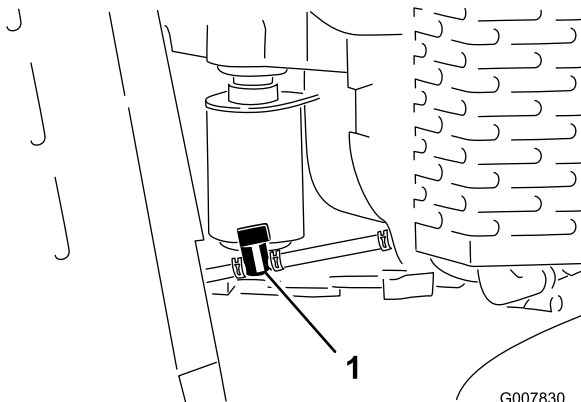

Figure 39
4. Turn the fuel shut-off valve to the closed position (Figure 39).
5. Squeeze the ends of the hose clamp on the engine side of the shut-off valve together and slide it up the fuel line away from valve (Figure 39).
6. Pull the fuel line off the valve (Figure 39). Open the fuel shut-off valve and allow the gasoline to drain into a gas can or drain pan.
3. Turn the fuel shut-off valve to the closed position (Figure 39).
7. Turn the fuel shut-off valve to the open position (Figure 39).